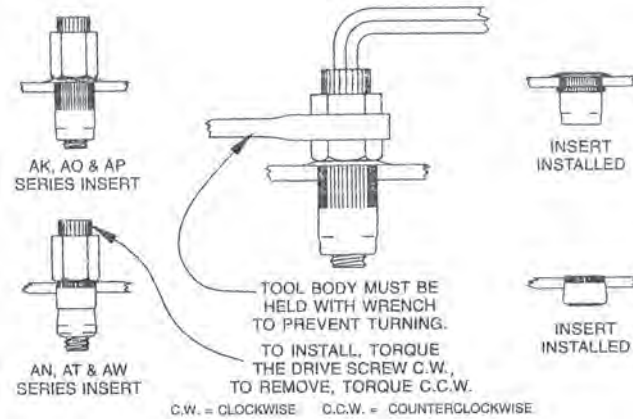

fig. 19
4. Assemble the nutsert and nutsert tool together and insert into the 17/32" hole. Review the diagram below on how to attach the nutsert to the vehicle (fig. 19).